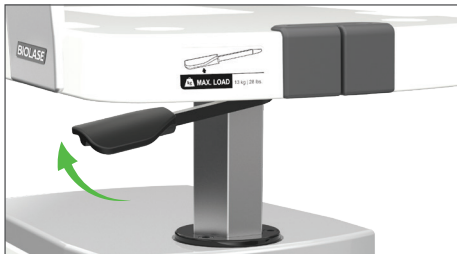

Figure 4: Table height Adjustment Lever, hold table top with hands while using lever
- From the back of the cart, locate the black actuator lever under the table top. **(Figure 4)**